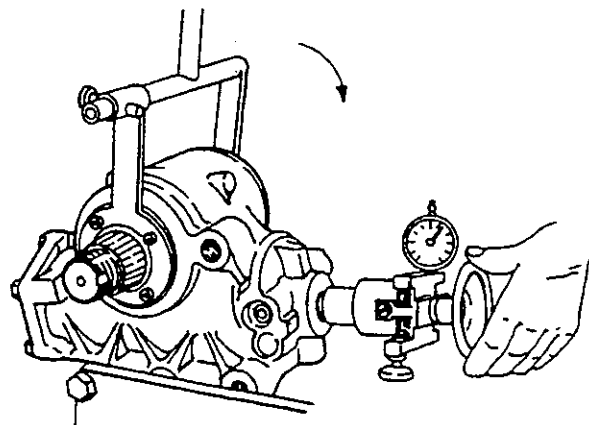

Fig.38
Turn both housing covers (4) with tools [18] and [19], keeping the same angle (in the direction of the arrow), until the required increase in friction torque is obtained (*Fig.38*).